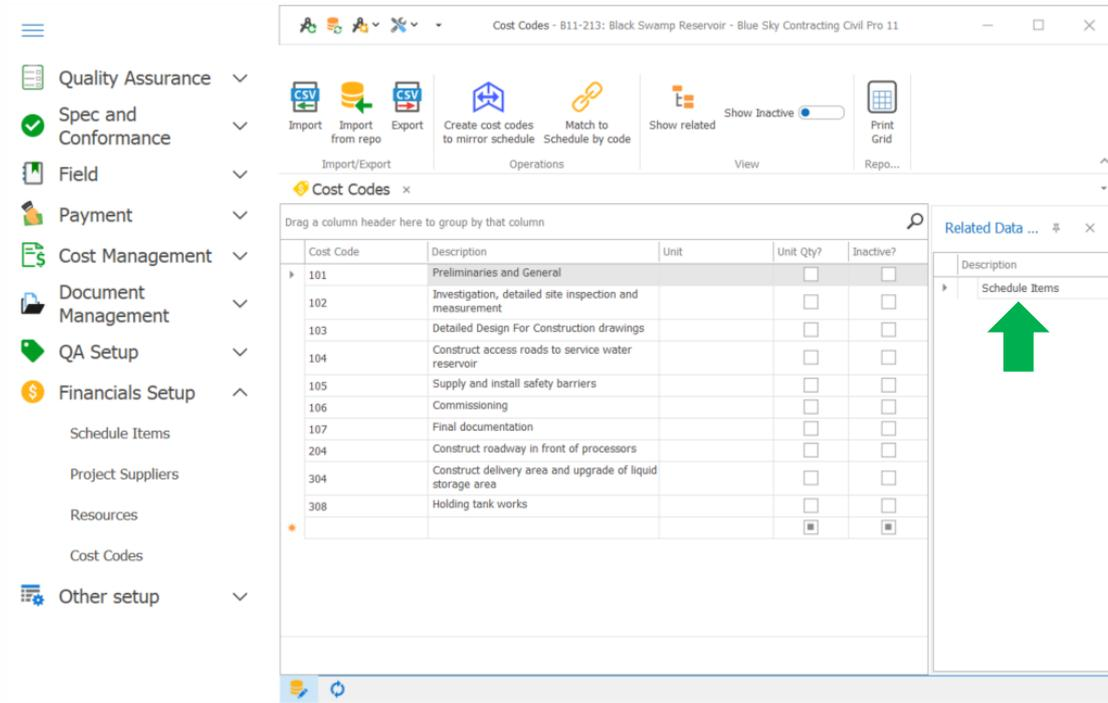

Figure 21 The Related Items Tree
2. Double click on *Schedule Items* heading in the related items tree on the right of the screen - Figure 21.